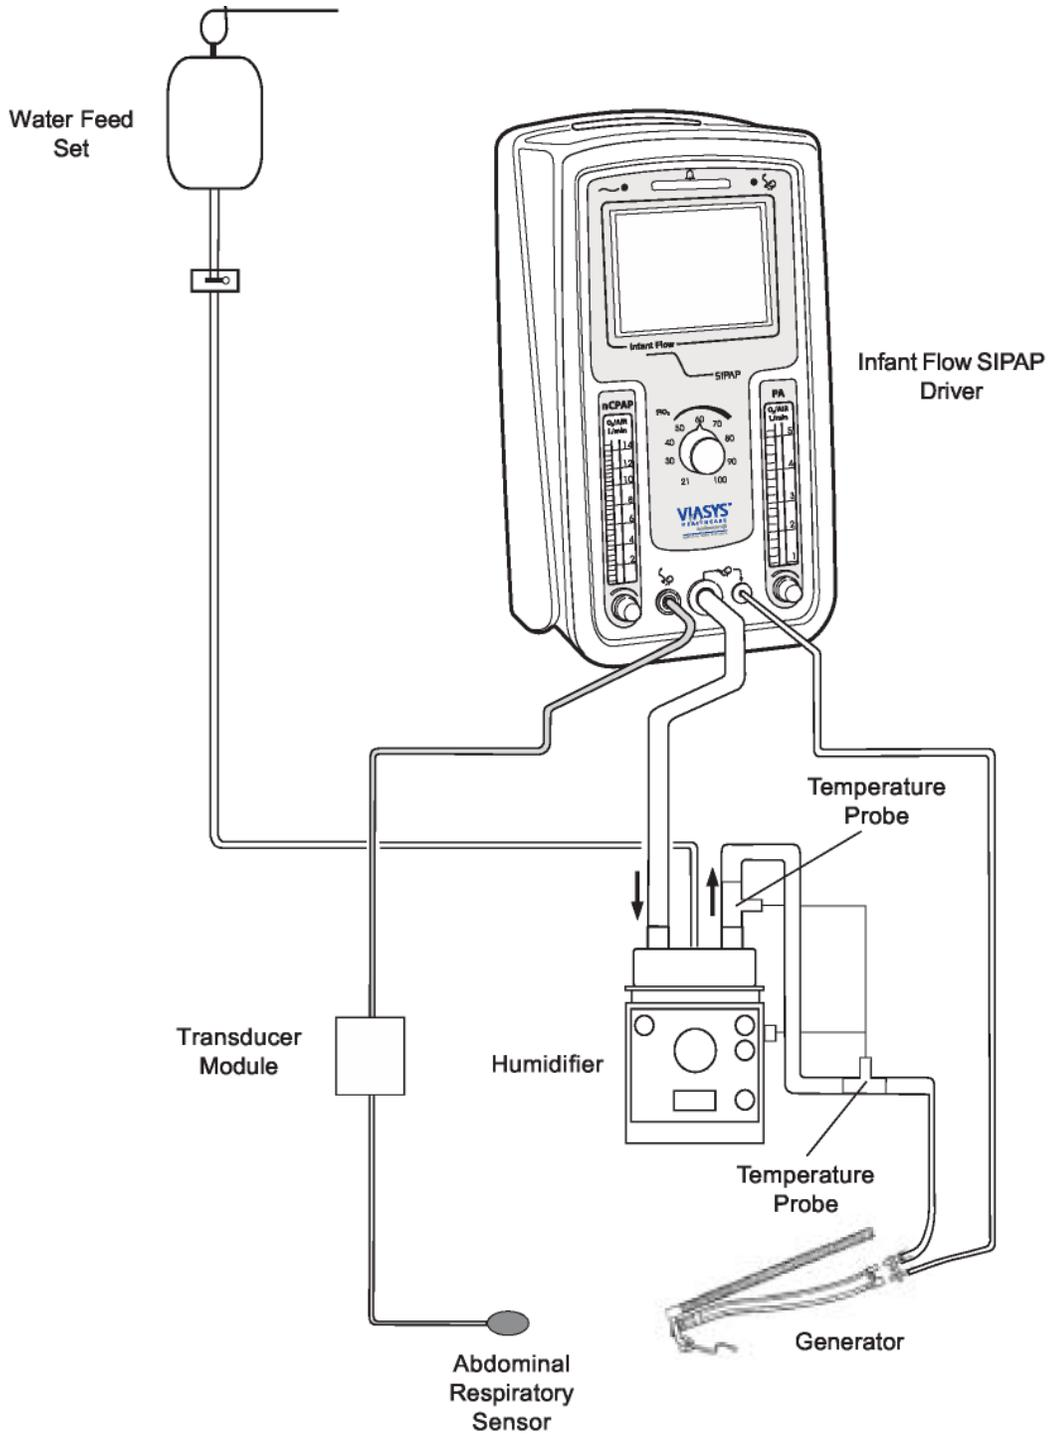

Figure 9 - Patient Connections
- 3 Connect the patient circuit to the IFSD as required. Figure 9 shows a typical configuration, the actual configuration may vary dependent on the type of ancillary equipment used and the clinical needs prescribed for the patient. For functional test purposes, the Generator nasal prongs can be occluded to simulate patient responses.